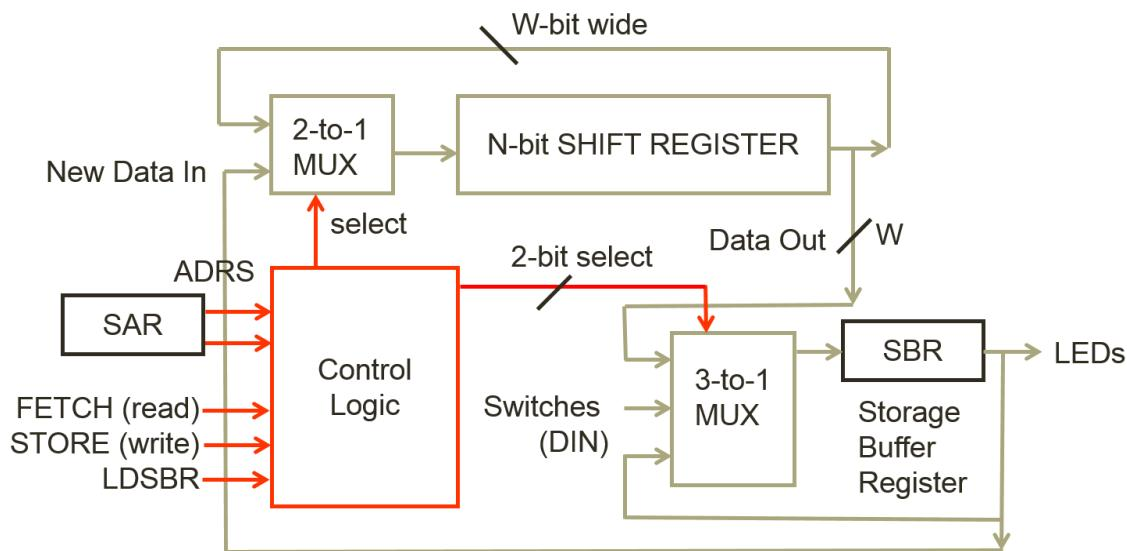

Figure 3: Block diagram of the shift-register storage unit.
But what is the ‘current operation’ at any given moment? Surely the desired operation is dictated by the user using the switches, but the inputs alone is not sufficient to tell each part of the circuit what to do. For example, if you would like to read from a specific address in the shift registers, you would first set the SAR to the specific address then you would hit the FETCH switch. But since the shift registers are constantly shifting data in and out of their serial ports, when exactly do you load the data into the SBR? How do you exactly tell what input the MUX should choose from? To solve the various problems associated with controlling and timing, it is generally not a good idea to use the inputs to directly control the various circuit components. Rather, it is almost always desired to have a centralized control logic that takes in all the inputs, process the request, and sends out various signals to control the circuit components. Figure 3 shows a general block diagram for the proposed circuit design. The most common form of a control logic is a state machine, which we will discuss in the next experiment. In this experiment, we will improvise a simpler control logic based on the requirements of our specific circuit.
- b. Include a high-level block diagram like figure 3 in the lab manual. This diagram should contain components on the granularity of registers, muxes, and blocks and include few/no individual gates.
- ii. Two block diagrams, one like figure 3 in the lab manual and one containing only the inside of the control unit.